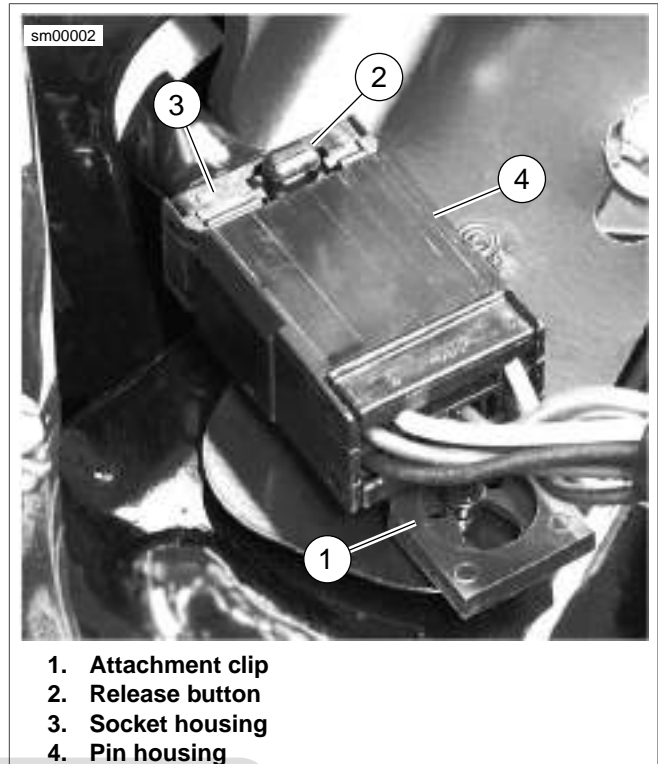

Figure A-1. AMP Multilock Connector
See Figure A-1. Attachment clips (1) on the pin housings are fitted to T-studs on the motorcycle frame. The T-studs identify OE connector locations. To maintain serviceability, always return connectors to OE locations after service.
2. See Figure A-1. Depress the release button (2) on the socket terminal side of the connector and pull the socket housing (3) out of the pin housing (4).